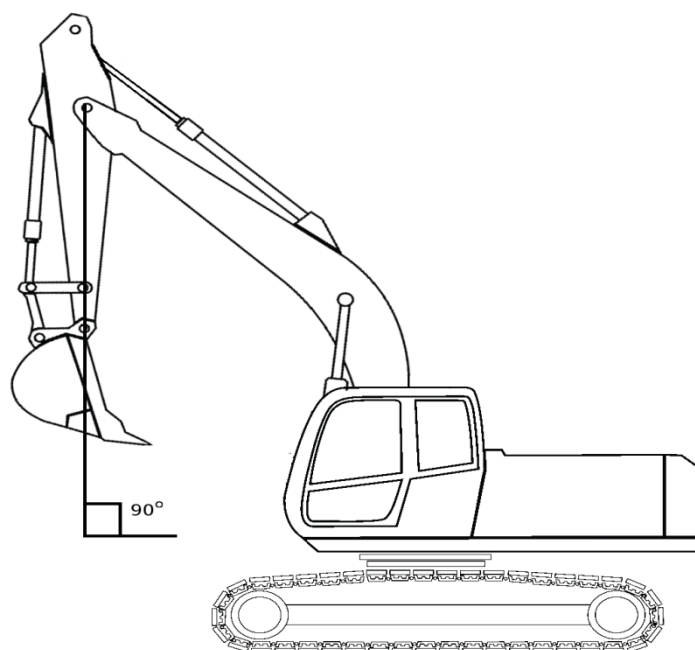

Figure 26. Stick vertically
- Align stick vertically (Figure 26). When at least one of the numbers is on black background, press “0.0” to calibrate. Do not move the boom while the calibration is in progress.